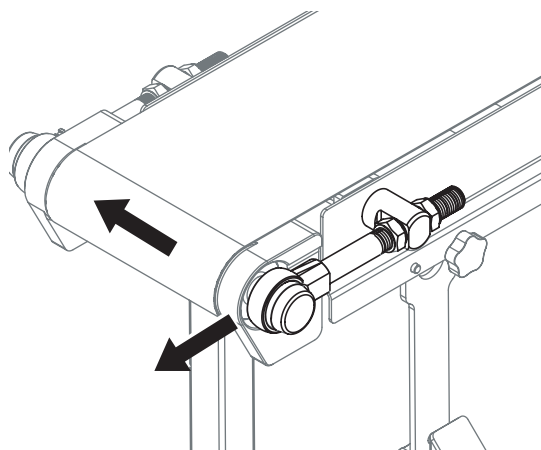

Figure 51
- b. Tighten the nut to increase the length of the idler tail shaft and move the belt away from that side of the conveyor (**Figure 51**).